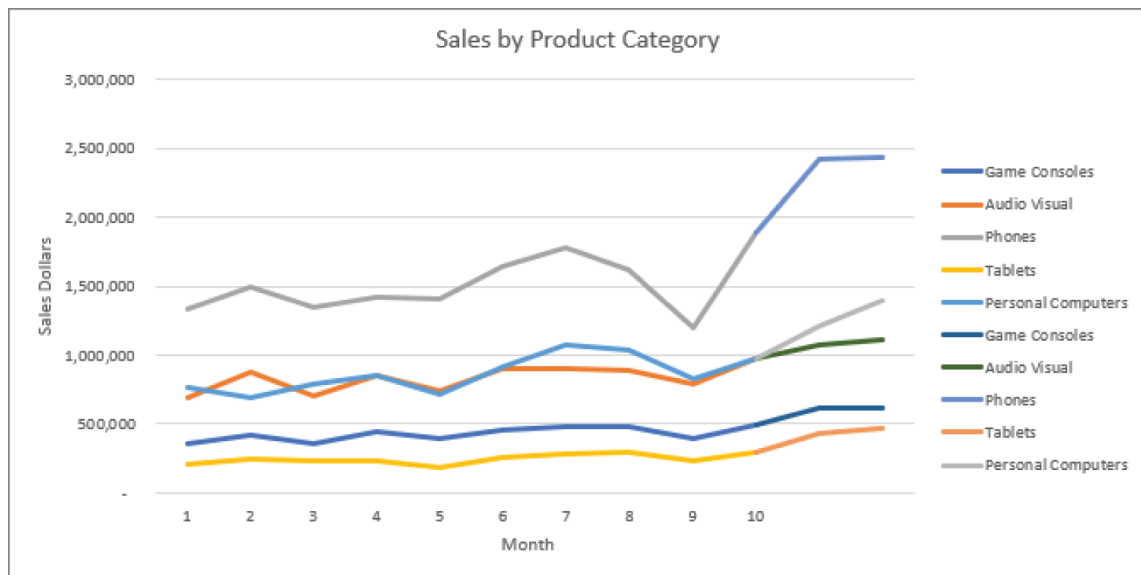

Figure 9.12: Newly pasted series on the line chart
8. Select New Series in the Add Cells As box, select Rows in the Values (Y) In box, check Series Names In First Column, and check Categories (X Labels) In First Row. Click OK to paste the new series. Figure 9.12 shows the resulting chart with the original series extended by the new series.